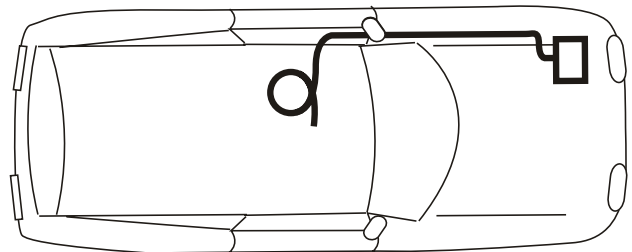

Figure 12-2
3. **Run the vehicle harness under and, when possible, through the vehicle back to the rear cargo area/trunk,** gaining entry into the vehicle through the firewall. [Figure 12-2]